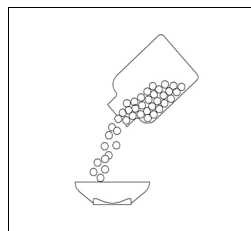

Fig. 2 – Correct Pour
- For best results, pour continuously, at an even rate (Fig. 2).